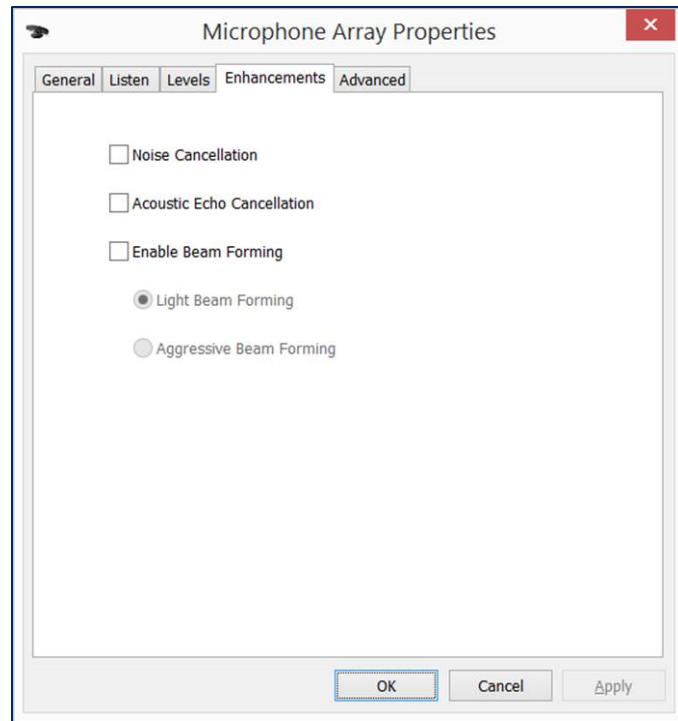

Figure 2-3 Enhancements Turned Off
- 15) Make sure all checkboxes in the **Enhancements** tab are turned off. See Figure 2-3 for an example.